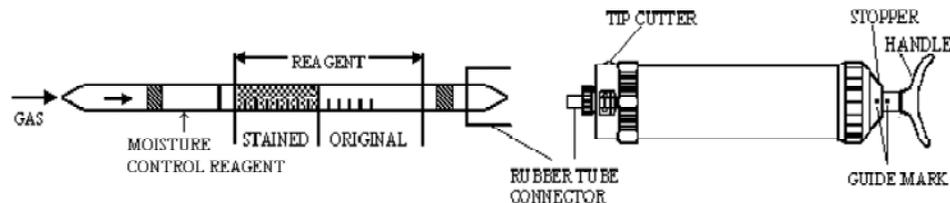

Fig.1
- Insert the detector tube into aspirating pump securely as shown in Fig.1. (Arrow mark shall point to the pump.)